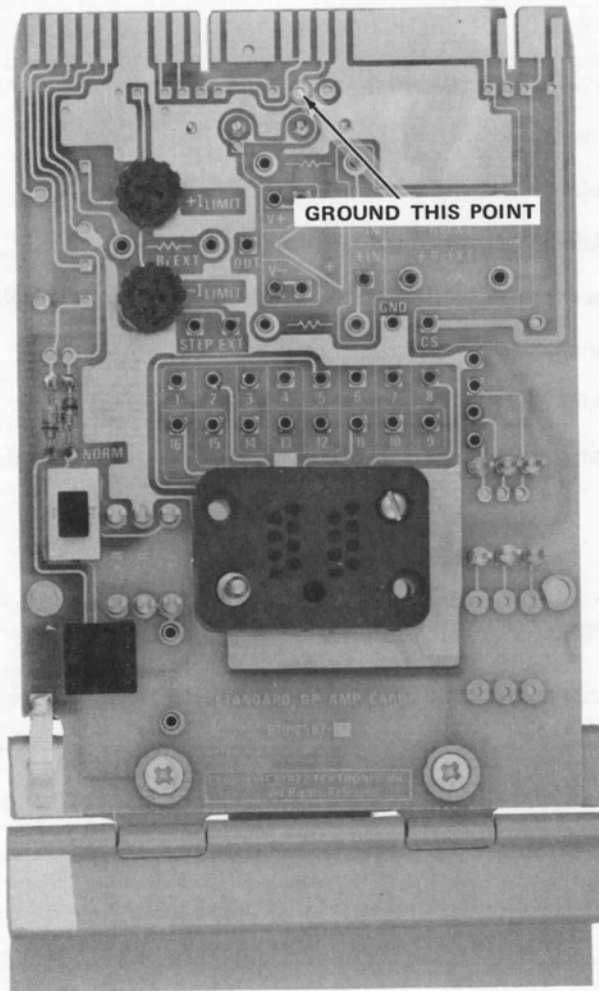

Fig. 5-2. Location of the point to be grounded in Step 2, part B.
b. Connect a lead from GND to the sixth hole to the left from the upper-right corner of the Standard Op Amp card. See Fig. 5-2.